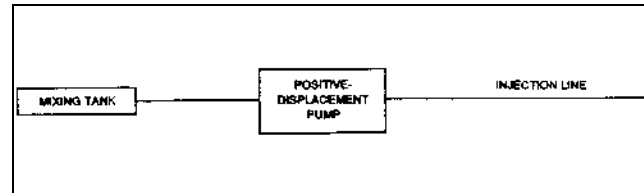

Figure 3-10. Batch system
c. Batch system. In this system, all materials are mixed in one tank (Figure 3-10). This system has three basic limitations: